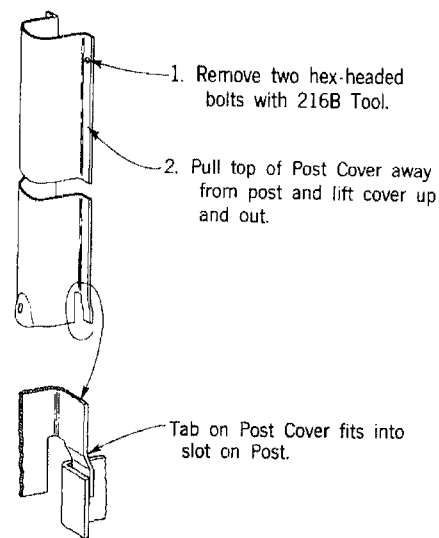

Fig. 5 — Remove Post Cover
2.05 The post cover can be removed after the access cover has been removed as shown in Fig. 5.